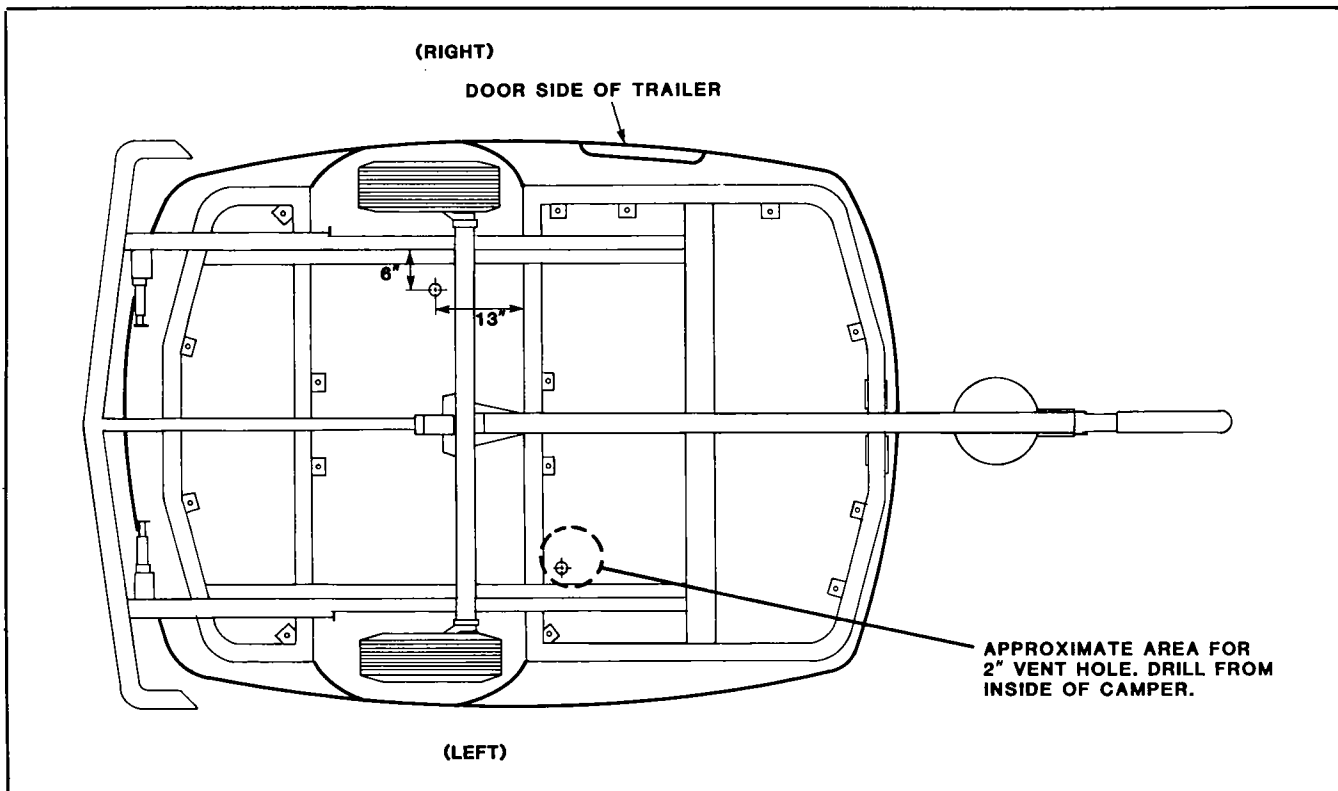

Figure 7. Vent Hole Locations
15. Measure and mark for one 2-inch vent hole under the furnace (figure 7).